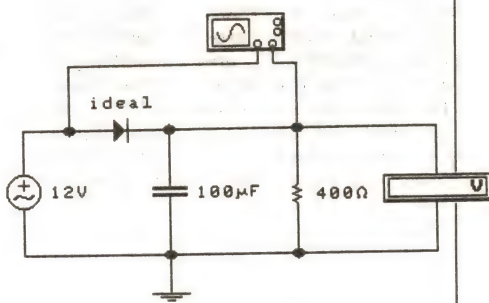

Fig. 3.19 Half-wave rectifier with reservoir capacitor (Assignment 3.3).
5. Now add a $100\mu F$ smoothing capacitor (Fig. 3.19). Once again display the input and output waveforms. Note the shape of the output waveform. As before, record the measured value of d.c. output voltage and the peak-peak ripple voltage measured with the oscilloscope.